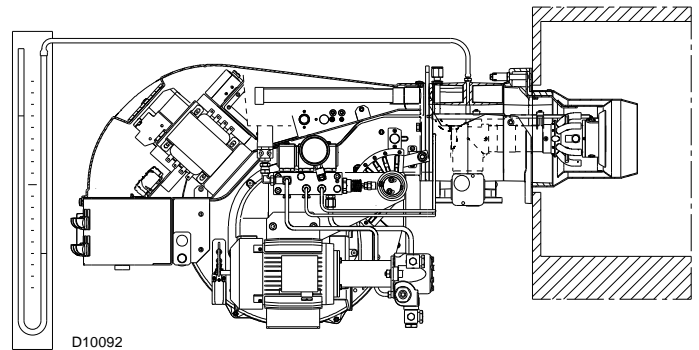

Fig. 48
- Fit a U-type manometer (Fig. 48) to the gas pressure test point on the sleeve. The manometer readings are used to calculate MAX. burner power using the Tab. J on page 35.